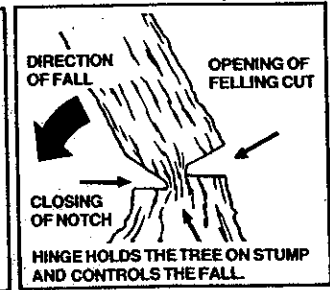

Figure 24
- c. Leave enough uncut wood between the felling cut and the notch to form a hinge. Figure 24.